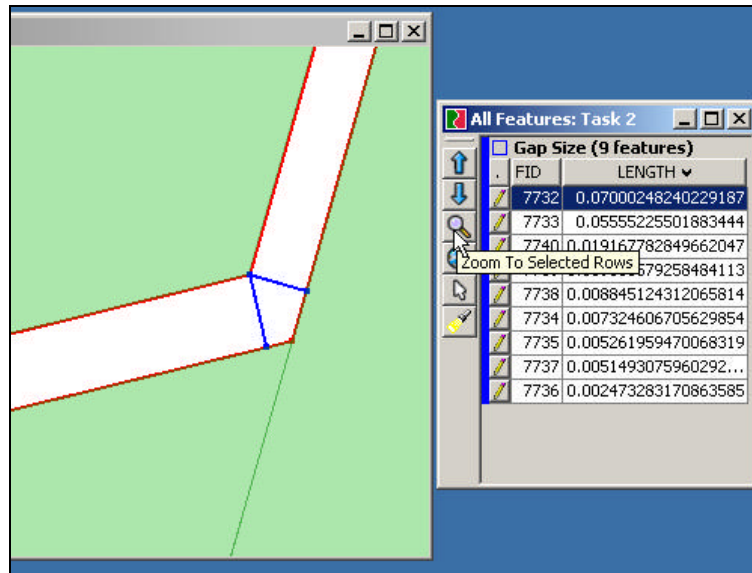

Figure 3-10 - Zooming to a gap using the Attribute View Zoom tool
- Use the Zoom tool () or the Attribute View Zoom tool as described above to zoom to coverage gaps (see Figure 3-10 below).